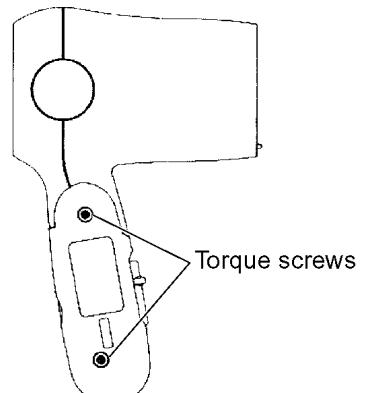

Figure 8
12. Assemble handle A and handle B, then fasten 2 torque screws as shown in Figure 8.